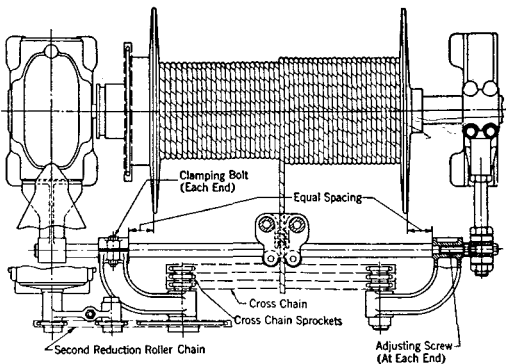

Fig. 8—Carriage Travel Adjustment
5.02 The cross chains and sprockets must be centered on the winch drum. If they are not, the winch line will pile up at one end of the winch drum. Center the cross chain on the drum by loosening the clamping bolts and turning the adjusting screws until equal spacing is obtained. (See Fig. 8.) It may be necessary to loosen the second reduction roller chain in order to make the cross chain adjustment. Retighten the second reduction chain when the cross chain adjustment has been completed.